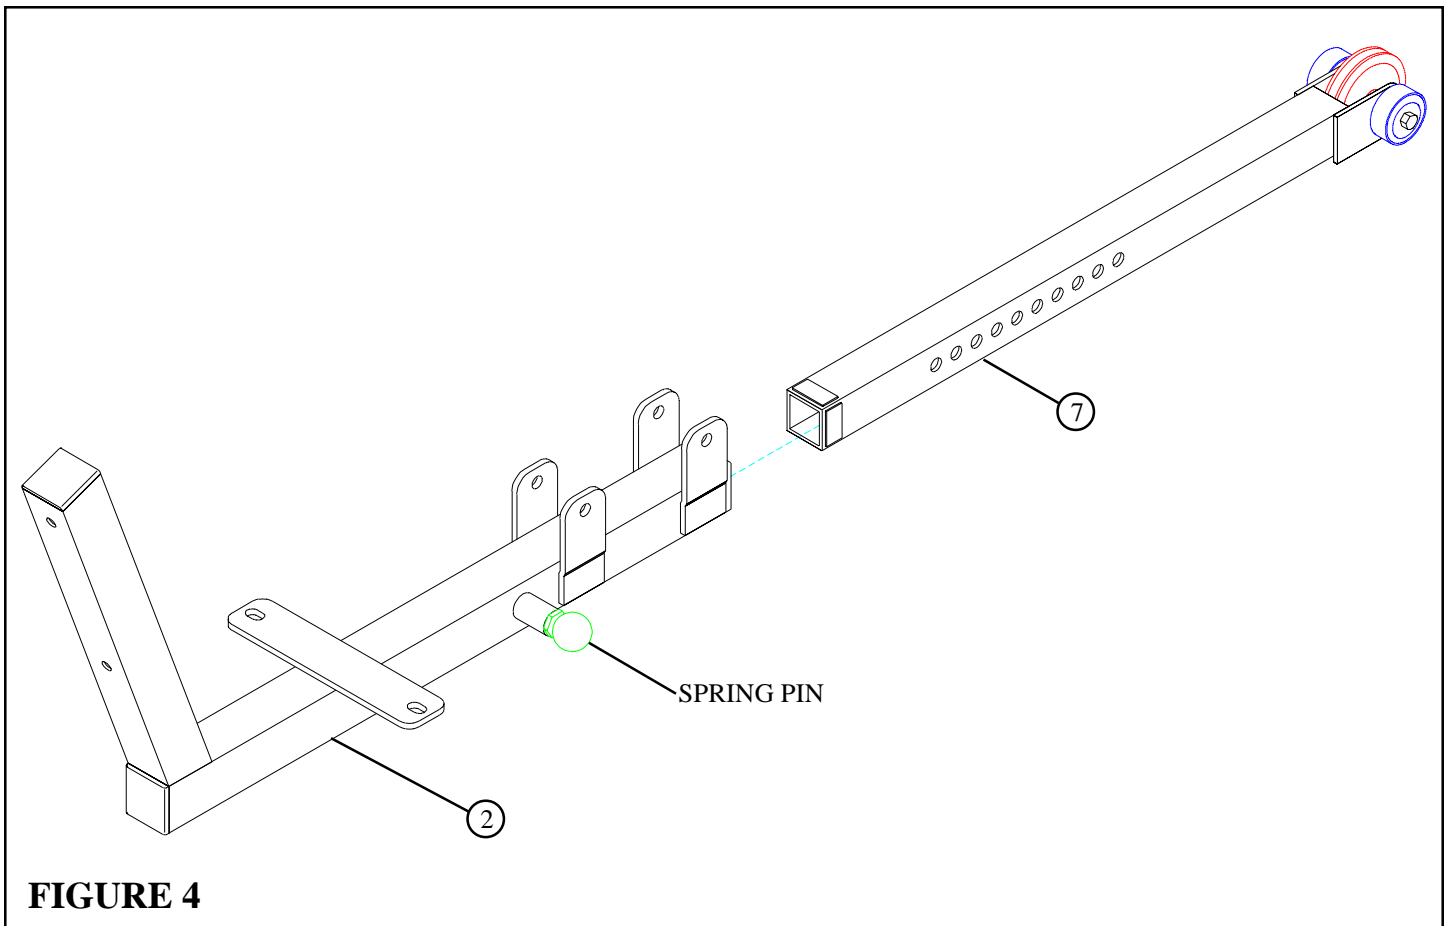

FIGURE 4
- **CAREFULLEY** slide the ADJUSTMENT TUBE (7) over into the SEAT FRAME (2) and engage the SPRING PIN into one of the adjustment holes. See FIGURE 4.